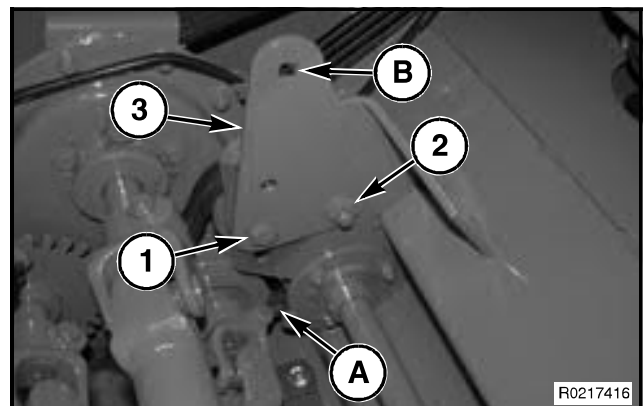

FIG. 25
FIG. 25: Loosen the mounting bolt (1) and the hex flange lock nut (2). Using a breaker bar inserted in the hole (B) rotate the mounting plate (3) to adjust the tension on the belt. Tighten the mounting bolt and the hex flange lock nut.